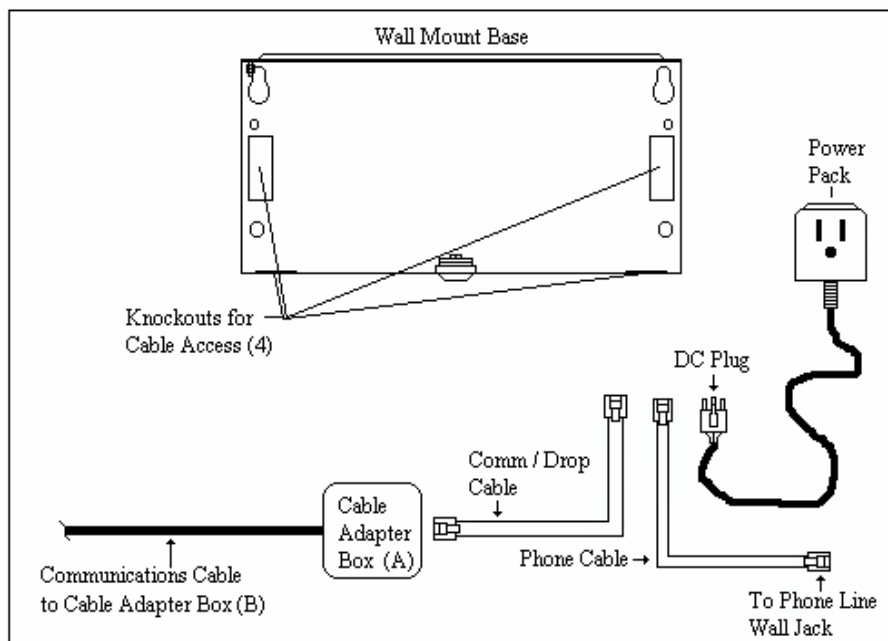

Figure 4
Locate a desired Cable Access knockout on the Mounting Base. Feed one end of the Comm / Drop cable, DC Plug for the power pack, one end of the Phone cable (if this is the Terminal with the Modem Snap Module in it), and any wires for the Relay (if applicable) through a knockout. Do not make any connections inside the Terminal yet. Plug the other end of the Comm / Drop cable into the modular jack on Cable Adapter Box (A) (Figure 4). Plug the other end of the Phone cable into the phone line wall jack (if applicable) (Figure 4). Repeat this step for each additional Terminal and its Cable Adapter Box.